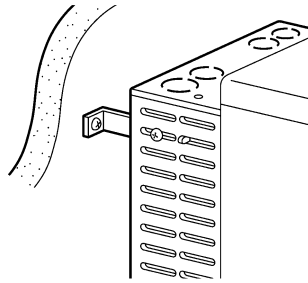

Fig. 13
- Secure the L-shaped hose to the intake inlet opening with the hose band. Secure the bent joint to the flue pipe with the pipe holder (If the extension pipe is used, also attach the pipe holder to the connection of the bent joint and the extension pipe). Secure the bent joint (or the extension pipe) to the exhaust outlet opening by sliding the pipe stopper in the exhaust opening bracket (See Fig. 13).